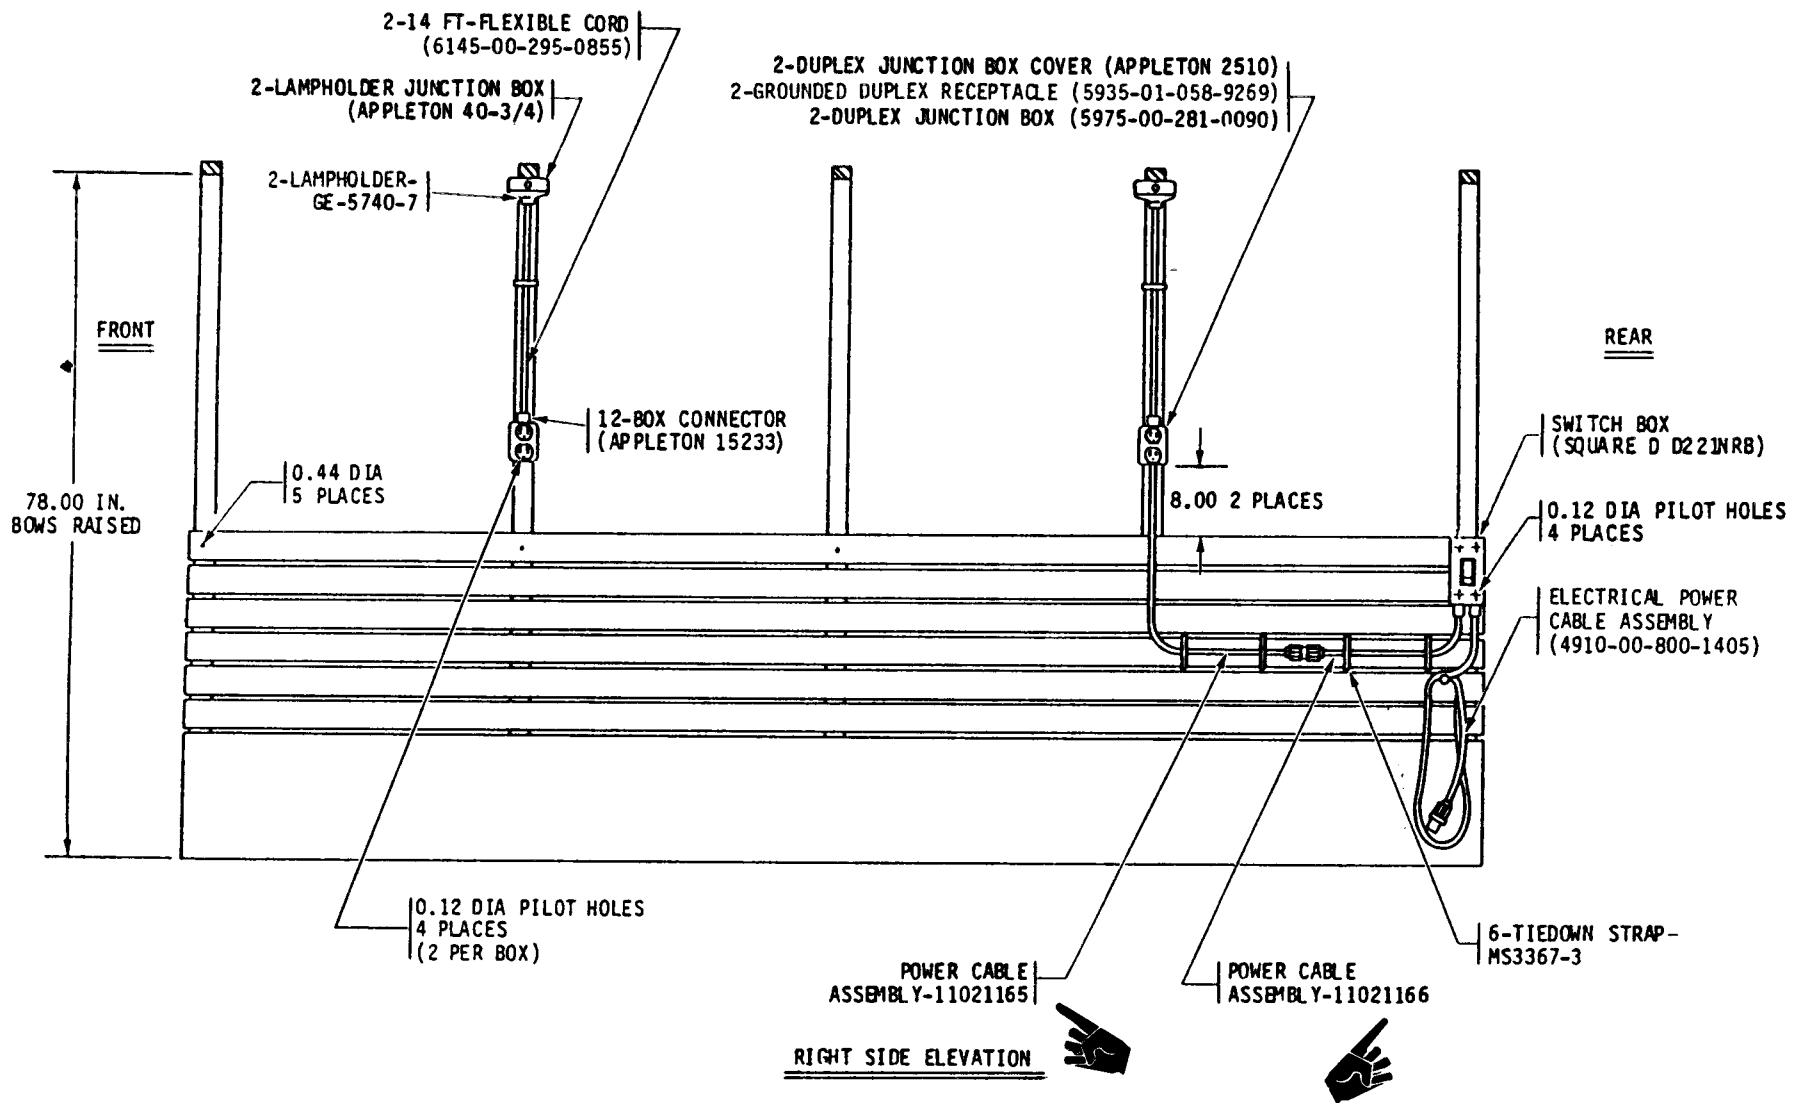
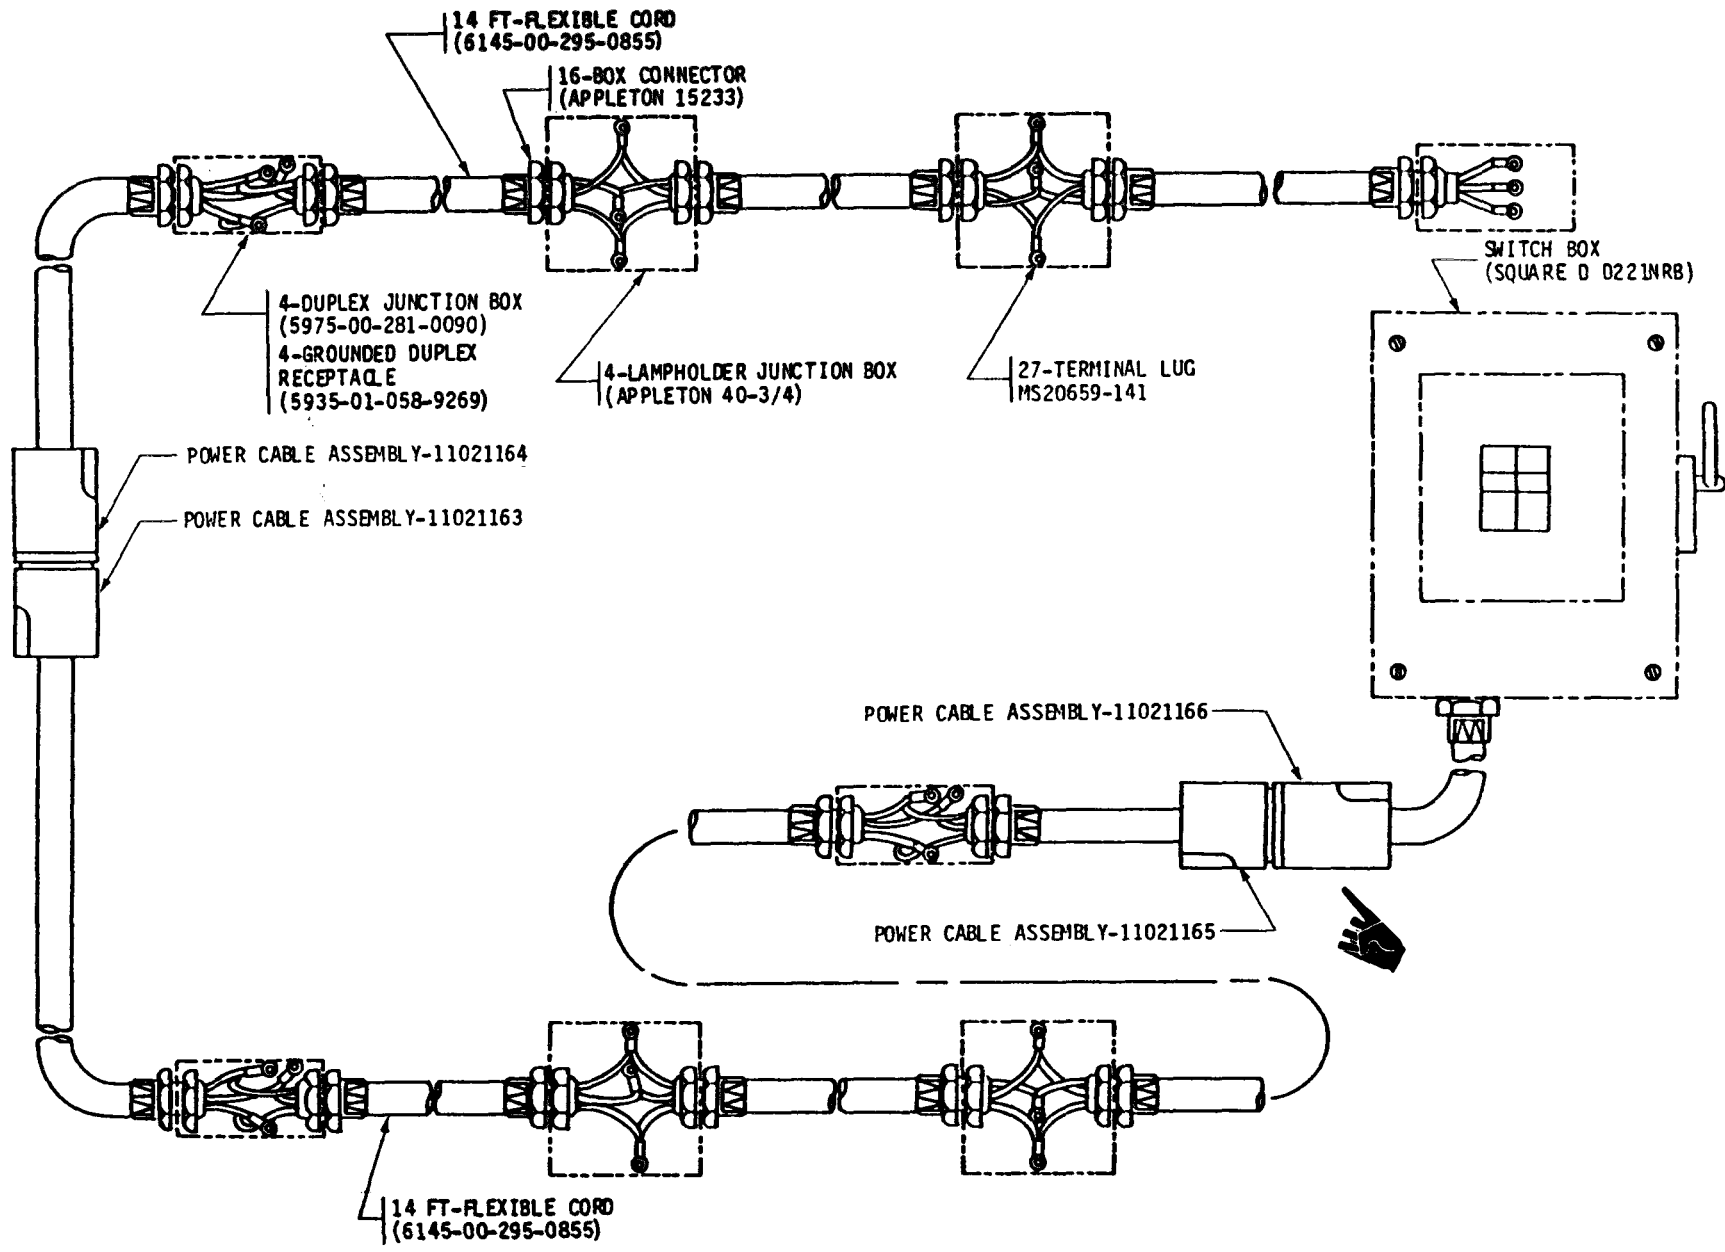

Figure 15. Electrical Components to be Mounted, Unit 1, M35A2, Right Side Elevation.
Figure 17. Electrical Schematic, Unit 1, M35A2.
i. Follow steps (1) thru (14) below for electrical component installation in unit 1, M35A2 cargo truck.
(1) To provide sufficient headroom for personnel to work in the M35A2 cargo truck, raise the bows 18 inches in accordance with figures 15 and 16, and drill ten 0.44-in. diameter holes through bow sockets and bows.
(2) Secure bows in place with ten 7/16- x 1-3/8-in. hex head capscrews (MS90725-88), ten 7/16-in. lockwashers (MS35338-47), and ten 7/16-in. hex nuts (MS51967-11).
(3) Position switch box (Square D D221NRB) on the two top slats in accordance with figure 15. Using holes of switch box as a template, mark and drill four 0.12-in. diameter pilot holes. Secure switch box to truck (slat with four #10 x 1-in. thread forming screws (MS51861-49).
(4) Install electrical power cable assembly (4910-00-800-1405) through box connector in bottom of switch box and connect to circuit breaker inside switch box (fig. 15).
(6) Position four duplex junction boxes (5975-00-281-0090) on bows as shown in figures 15 and 16. Mark and drill eight 0.12-in. diameter pilot holes and secure duplex junction boxes to bows with eight #10 x 1-in. thread forming screws (MS51861-49).
(7) Remove two knockout slugs from each lampholder junction box and each duplex junction box in line with
bows. Install twelve box connectors (Appleton 15233) in the junction boxes and install jam nuts on box connectors in accordance with figure 17.
(9) Install 28 feet of cable (6145-00-295-1055) through duplex junction boxes and lampholder junction boxes on second and fourth bows. Refer to figures 15 thru 17. Strip a 3-in. length of outside insulation from cable on inside of each junction box. Strip 1 inch of insulation from each individual wire and twist wire to fit terminal lugs (MS20659-141). Install and crimp terminal lugs in place in accordance with figure 17.
(10) Connect three wires to lampholder (GE-5740-7), and secure to lampholder junction box (Appleton 40-3/4), with screws provided with lampholder junction box. Repeat this step
for remaining three lampholder junction boxes. Refer to figures 15 thru 17.
(11) Install four grounded duplex receptacles (5935-01-058-9269) after stripping 3 inches of outside insulation from cable. Refer to figure 17. Strip 1 inch of insulation from each individual wire and twist wires to fit terminal lugs (MS20659-141). Install terminal lugs and crimp. Connect wires to grounded duplex receptacles, and secure grounded duplex receptacles to duplex junction boxes with screws provided with grounded duplex receptacles in accordance with figures 15 thru 17.
(12) Install four duplex junction box covers (Appleton 2510) to duplex junction boxes (5975-00-281-0090) and secure with screws provided in duplex junction box covers. Refer to figures 15 and 16.